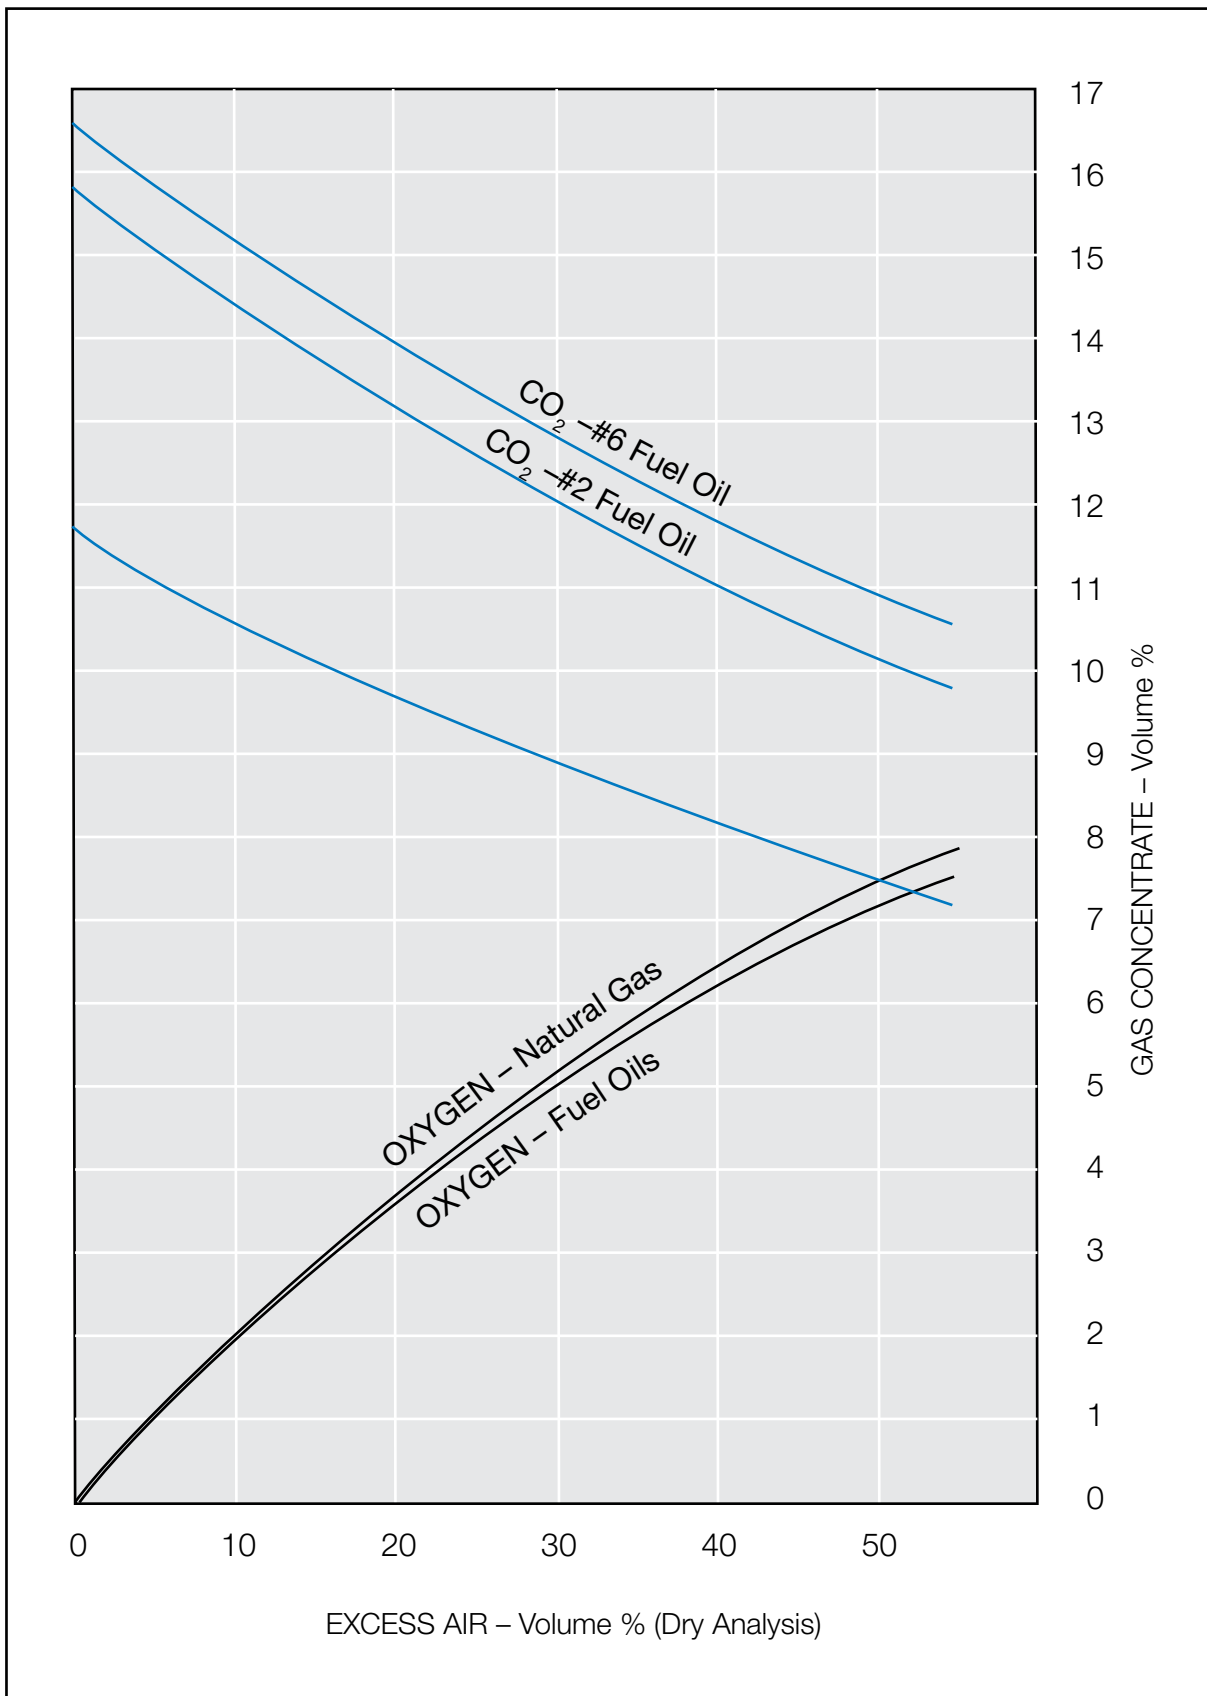

figure 5
2. Determine the CO₂ level of the boiler. (If excess air as O₂ is available, O₂ can be converted to CO₂ using figure 5.)